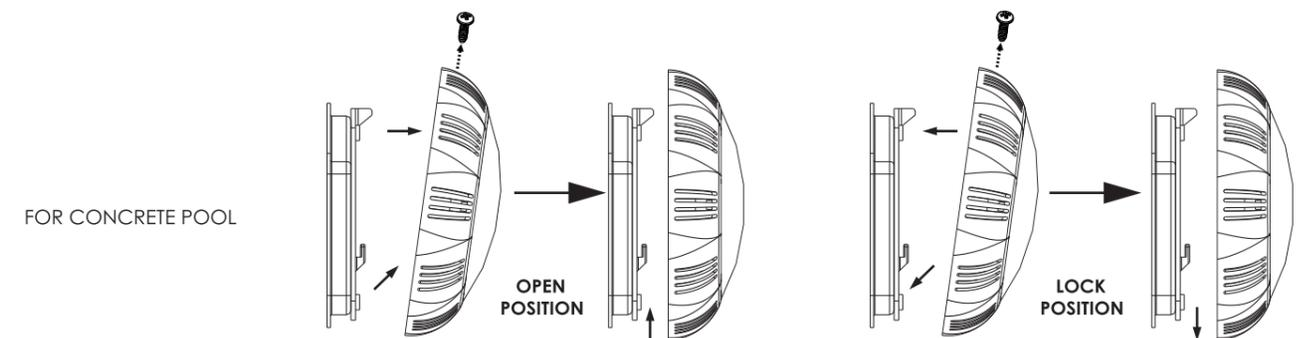
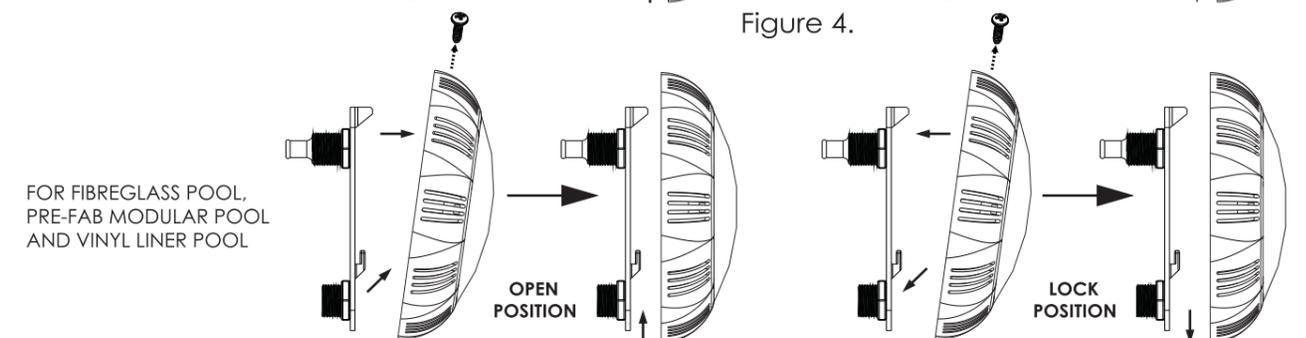

Figure 4.
Figure 5.
- 10) Rotating Locking System ensures light is secured to bracket, see Figure 4. (Figure 5.)